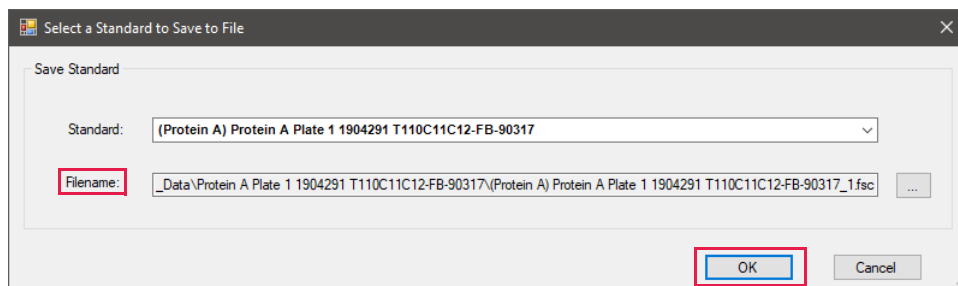

Figure 10-18: Saving a Standard
2. Select the standard(s) you want to use and then click **OK** (Figure 10-18).
2. Select a standard to save and enter a file name (Figure 10-18).